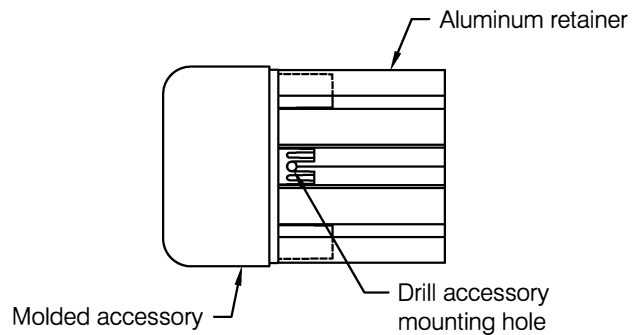

fig 6
- Step 6:** Insert molded accessories into end of retainer, press firmly to ensure molded part is seated squarely against the end of the retainer. Drill accessory mounting holes using the accessory as a template, see **fig 6**.